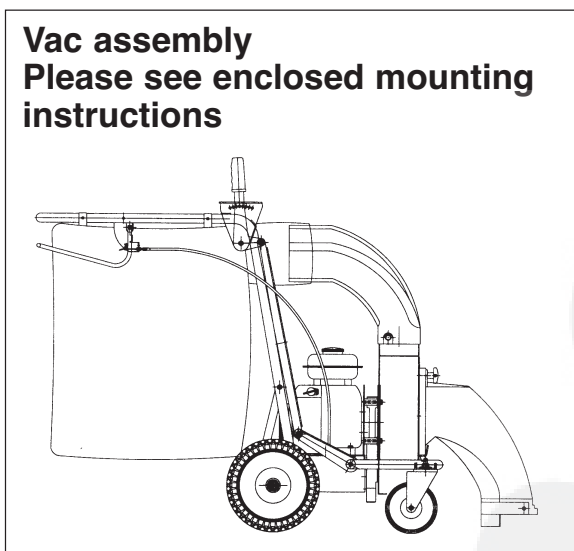

Fig. 1
The machine comes pre-assembled except for the foliage bag (8) and the suction nozzle (25/32). The suction nozzle and bag should be fitted as shown in Fig. 1.
Fit the suction nozzle (3) and foliage bag (8) as shown in Fig. 1, paying particular attention to the adjustment of the Bowden cable (25/32) for the switch bar (31) to prevent slipping of the engine clutch.